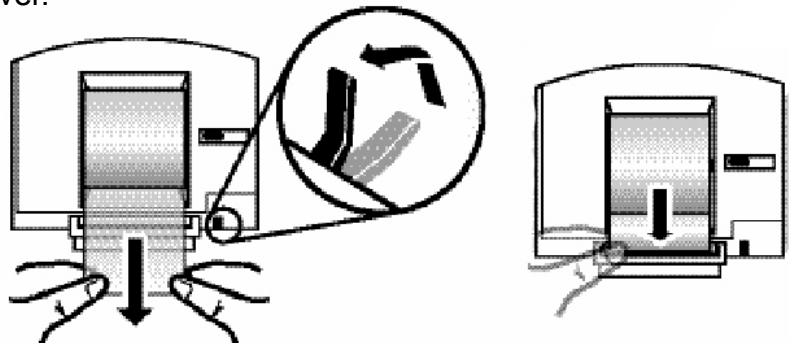

Figure 6
3. Push the roll paper into the inserting slot after lifting up the printer lever. (See Figure 6.)